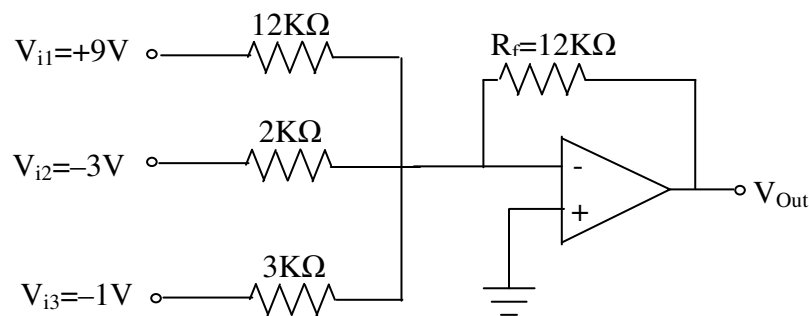

Fig 3
Q.75 An operational amplifier shown in Fig.3 has feedback resistor $R_f = 12 K\Omega$ and the resistances in the input sides are $R_{S1}=12K\Omega$, $R_{S2}=2K\Omega$ and $R_{S3}=3K\Omega$. The corresponding inputs are $V_{i1} = +9V$, $V_{i2} = -3V$ and $V_{i3} = -1V$. Non-inverting terminal is grounded. Calculate the output voltage. (4)